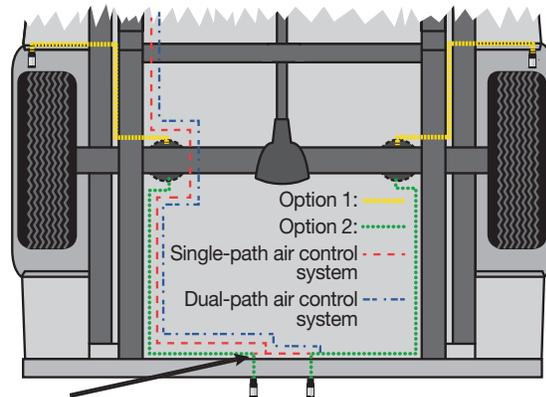

fig. 9
1. Choose a convenient location for mounting the inflation valves (Fig. 9). Popular locations for the inflation valve are: